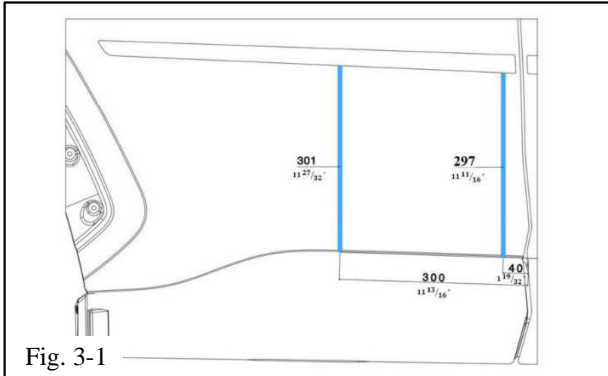

Fig. 3-1
- (a) Measure the locations along the upper edge of the rear cladding, then measure the vertical locations for the rear molding (mm or in.) (Fig. 3-1).